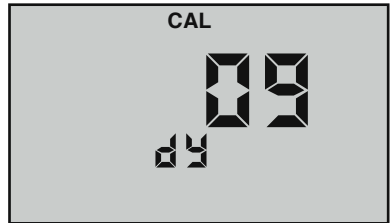

Figure 14
9. Press $\left(\begin{array}{c} \text{CAL} \\ \text{MCLR} \end{array}\right)$ to accept the change to the new day (see Figure 14).